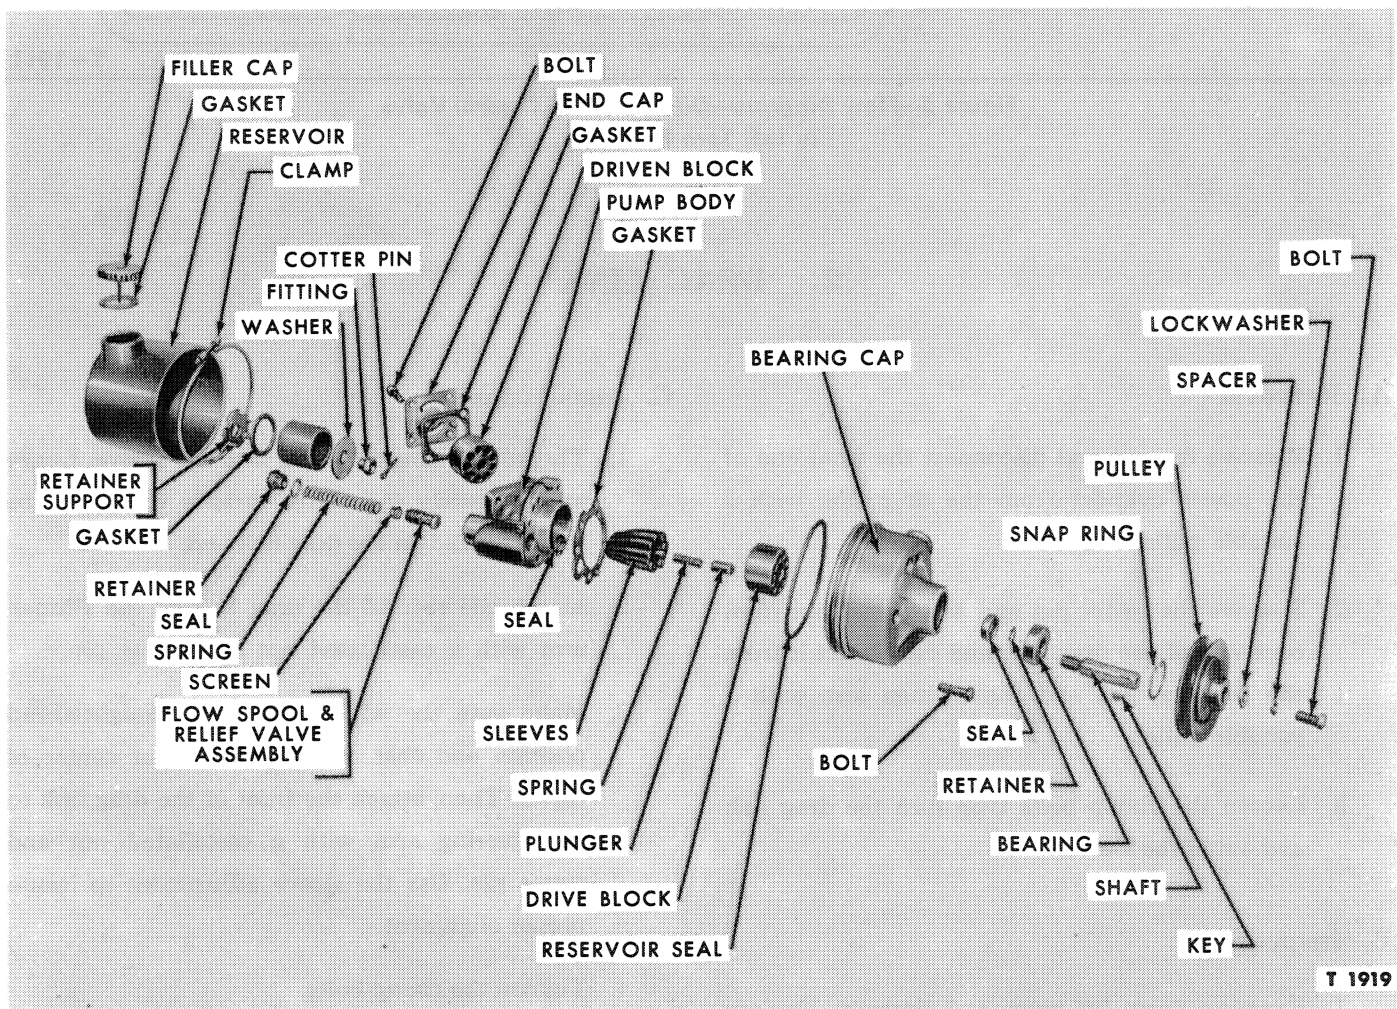

Figure 6—Sleeve-Type Pump—Disassembled View
3. Remove the reservoir clamp ring and separate the reservoir from the pump body, Figure 6.